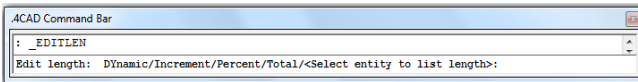

Fig. 120 – the communicate in Command Bar after selecting the Filler function
- In the prompt box (Command Bar), choose **Fillet Settings** (Fig. 120);